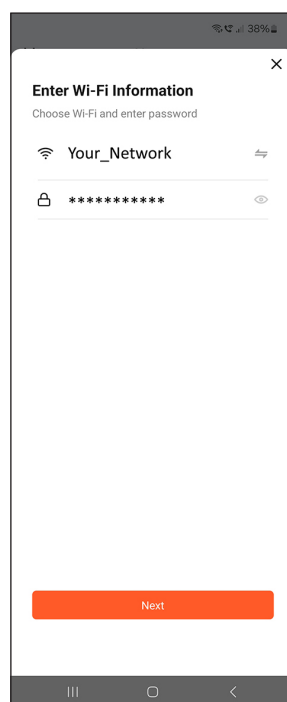

fig. 8
- Select your Wi-Fi network and enter your password (see fig. 8)